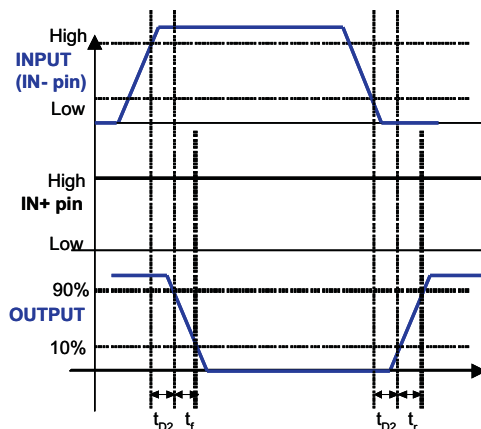
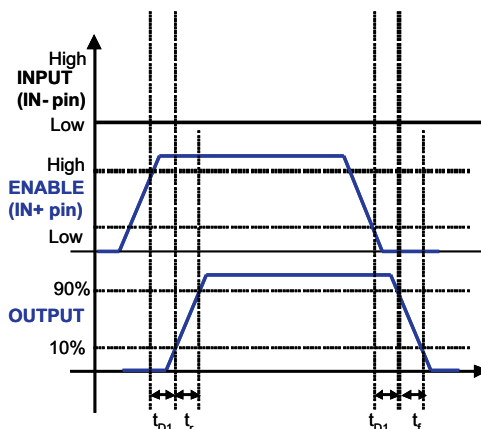

Figure 2. Inverting Configuration
Figure 3. Enable and Disable Function Using IN+ Pin
(3) See timing diagrams in Figure 1, Figure 2, Figure 3 and Figure 4.